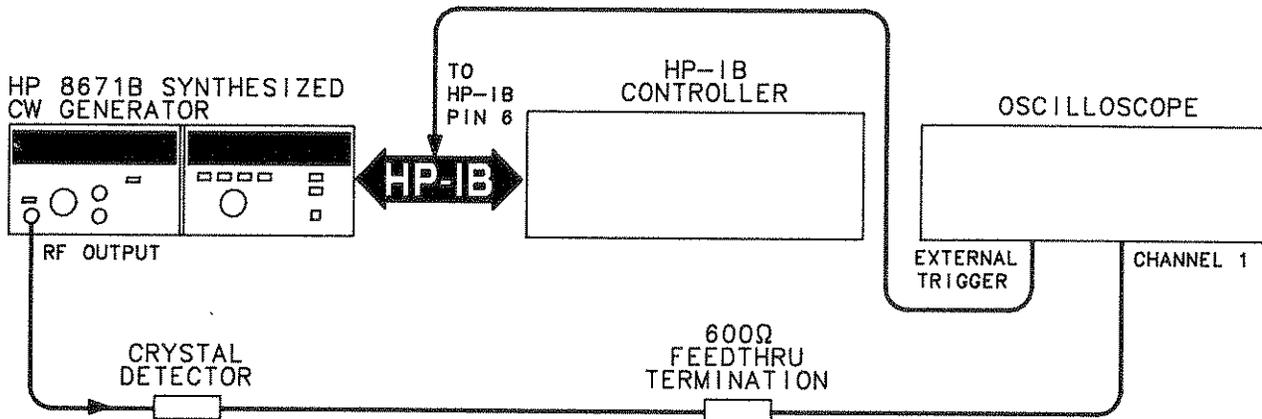

Figure 4-7. Output Level Switching Time Test Setup
1. Set up the equipment as shown in Figure 4-7. The external trigger input of the oscilloscope should be connected to pin 6 of the HP-IB cable or A2A9U14, pin 15. An HP-IB adapter (HP 10834A) can be used to make a permanent trigger adapter for this test.